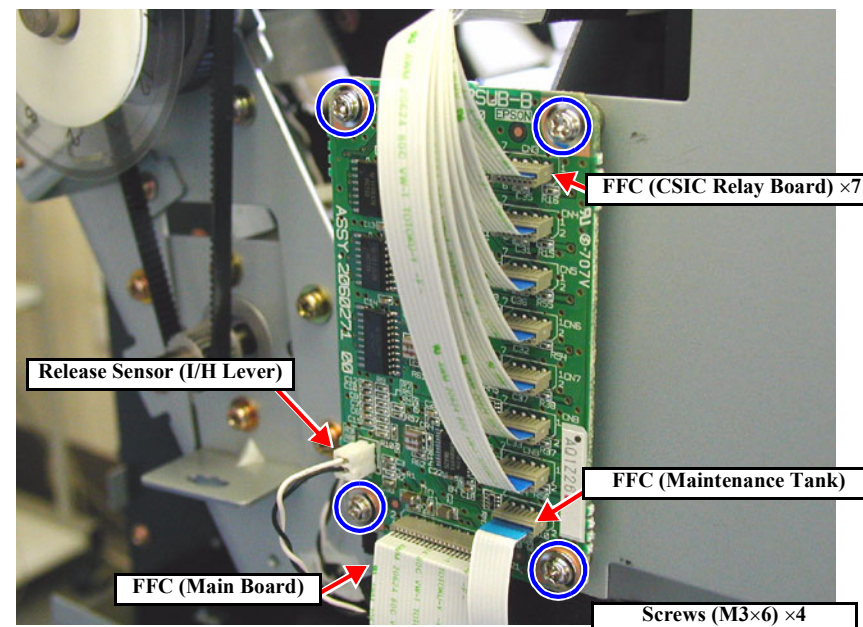

Figure 4-62. Disconnecting the C472_SUB-B Board Connectors
2. Disconnect the seven FFCs (ink cartridge) and the two FFCs (Main Board/Maintenance Tank) on the C472_SUB-B Board found at the left side of I/H Frame. (See Figure 4-62)
5. Disconnect the seven FFCs (ink cartridges), two FFCs (Main Board/Maintenance Tank) and the connector for the Release Sensor (I/H Lever) on the C472_SUB-B Board found at the left side of I/H Frame. (See *Figure 4-62*)